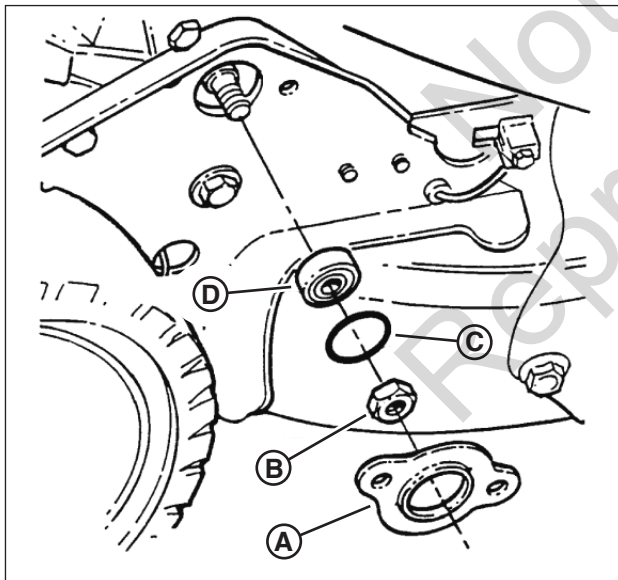

Figure 31: Replacing the hex shaft bearing
2. Remove the 3/8" hex lock nut (**B**, **Figure 31**), located on the outside of the right wheel bracket.